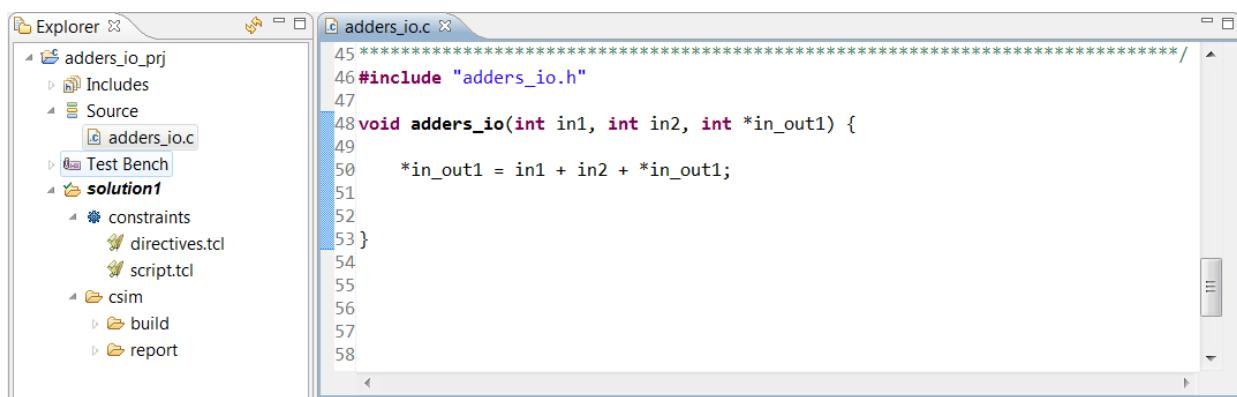

Figure 4-12: C Code for Interface Synthesis Lab 2
4. Open the source code as shown in Figure 4-12.